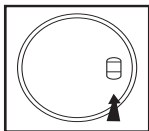
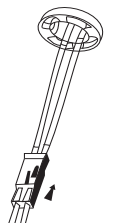

fig.1b
fig.5
Step 5. Squeeze the spring wires of the retrofit kit together and insert them inside the housing retaining bracket (fig. 5). Carefully tuck all wires inside and gently push the retrofit kit up into recessed housing. (fig.6).
Compatible with most standard 5" and 6" insulated and non-insulated housings that have spring retaining brackets inside (fig.5). Compatibility of housing may be determined by measurement of the housing as detailed in (fig.1b). The mounting width is adjustable from 5" to 6" by moving the spring wire brackets held by the nearby retaining screws.